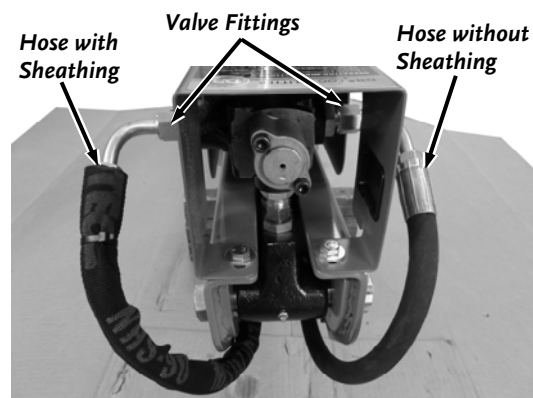

Figure 7
9. Install both Hoses onto the Valve angled rearward at a 45 degree angle so it can be routed under the center of the Beam Assembly (**Figure 7**). Tighten with a 17mm Wrench.